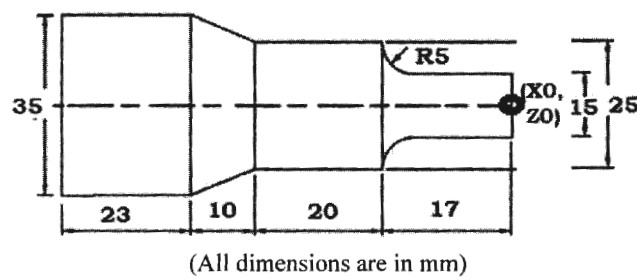

Fig.3
- Q6)** a) Write a CNC program using G and M codes to turn a component shown in fig.3. Assume suitable data for speed, feed and depth of cut. Use only Canned rough turn and finish cycles. Billet Size: Dia: 35mm L:70 mm. [10]